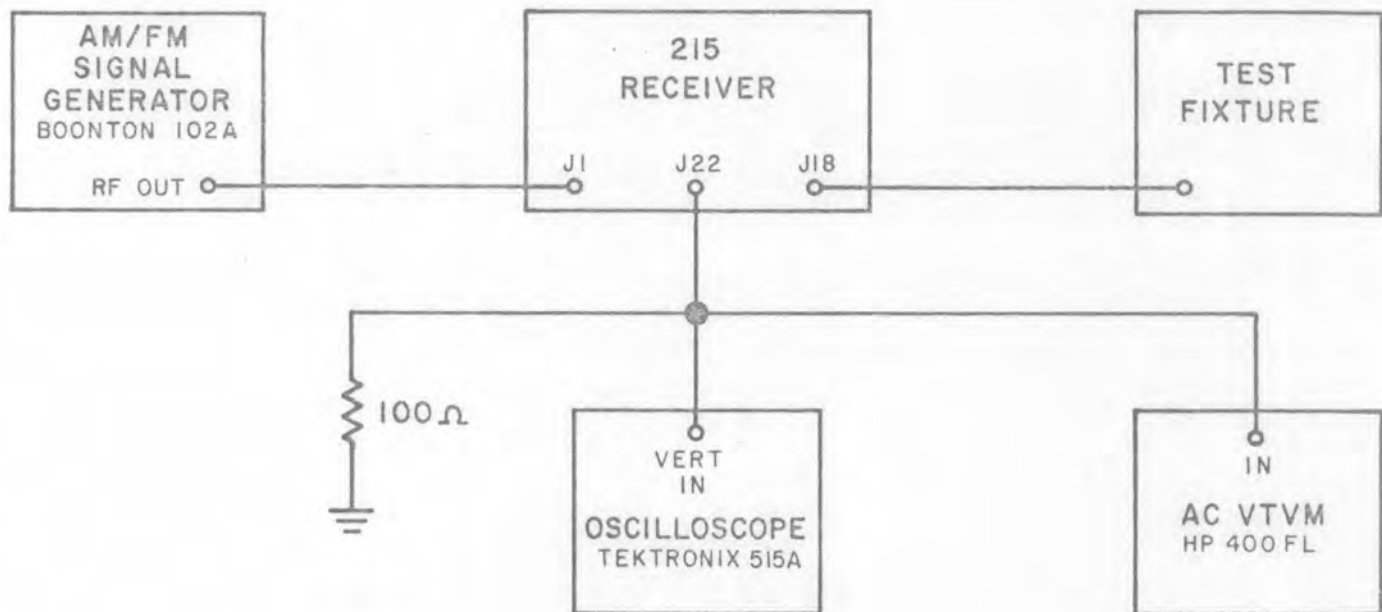

Figure 4-10. Test Setup, Remote Manual Gain Check
- (1) Connect the equipment as shown in Figure 4-10.